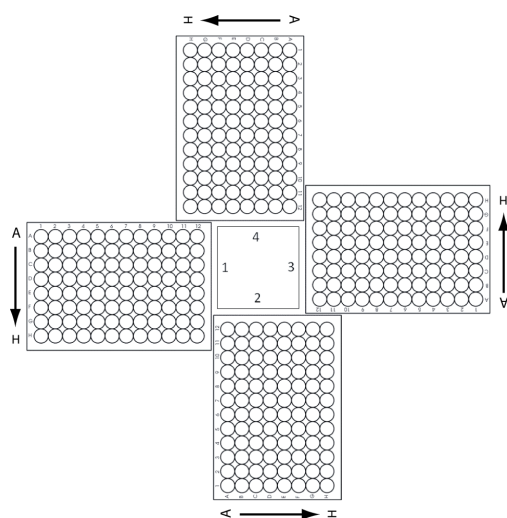

Figure 8 Agilent Labware MiniHub plate orientation.
- 1 Load the Labware MiniHub according to Table 30, using the plate orientations shown in Figure 8.
- 4 Load the Labware MiniHub according to Table 40, using the plate orientations shown in Figure 8 on page 61.